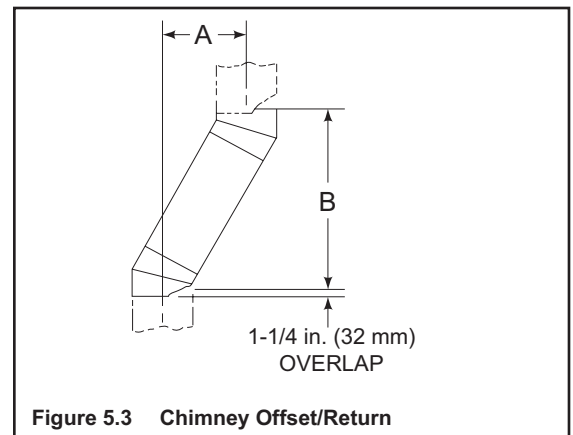

Figure 5.3 Chimney Offset/Return
- Measure how far the chimney needs to be shifted to enable it to avoid the overhead obstacle. See Figure 5.3. Use dimension “A” to determine chimney section required to achieve the needed shift.
Example: Your “A” dimension from Figure 5.3 is 14-1/2 in. (368 mm). Using Table 5.2 the dimension closest to, but not less than 14-1/2 in. (368 mm) is 14-5/8 in. (371 mm) using a 30° offset/return. It is then determined from the table that you would need 33 in. (838 mm) (Dimension “B”) between the offset and return. The chimney components that best fit your application are two SL1112s.